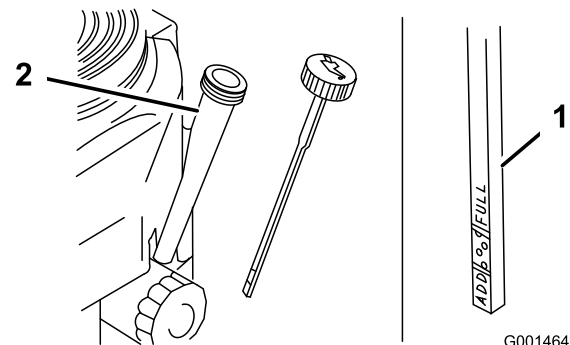

Figure 32
4. Clean around the oil dipstick (Figure 32) so that dirt cannot fall into the filler hole and damage the engine.
5. Unscrew the oil dipstick and wipe the end clean (Figure 32).
6. Slide the oil dipstick fully into the filler tube, but do not thread onto tube (Figure 32).
8. Slowly pour approximately 80% of the specified oil into the filler tube (Figure 32).